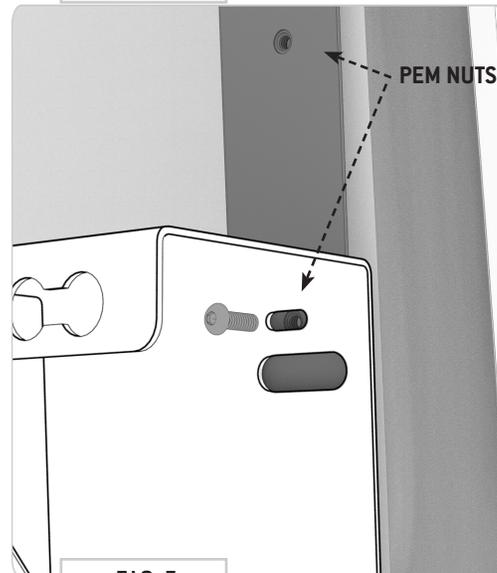

FIG 5
**2.3b** Raise bed rails up to Bed Brackets, align mounting slots to corresponding pem nut locations and secure bed rails to brackets using 1/4-20 screws (**FIG 5**).